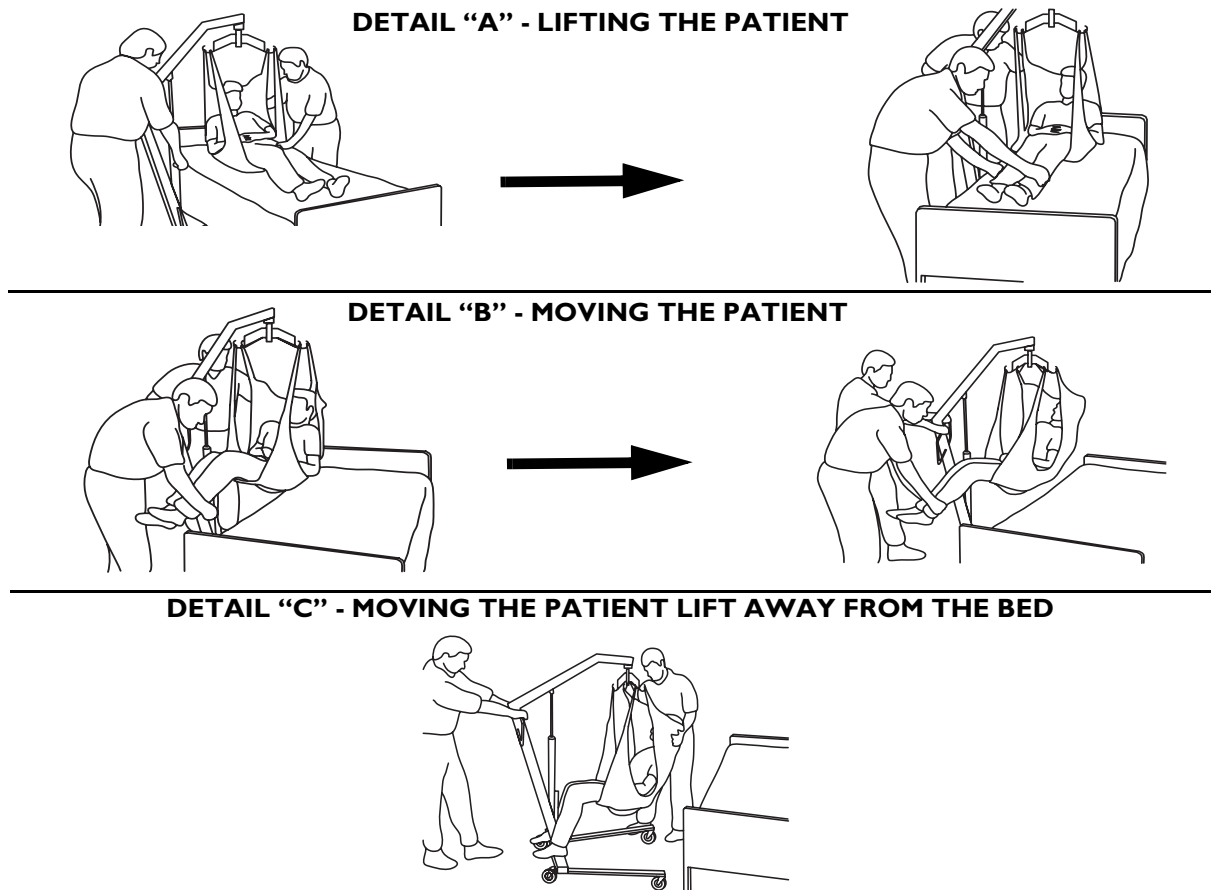

FIGURE 4.2 Lifting/Moving the Patient
NOTE: For this procedure, refer to FIGURE 4.2.
NOTE: When the patient is lifted from the bed or the floor (with the patient's head supported by the sling and/or an assistant), he/she will be raised to a sitting position (Detail "A" of FIGURE 4.2).
3. When the patient is clear of the bed surface, swing their feet off the bed (Detail "B" of FIGURE 4.2).
5. Turn the patient so that he/she faces assistant operating the patient lift (Detail "C" of FIGURE 4.2).